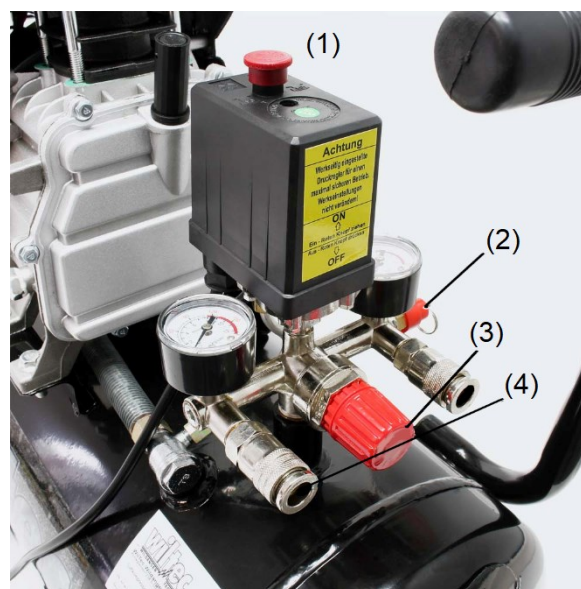

Figure 2
- Open the outlet valve, set the pressure switch knob in the **on** position (**fig. 2**), let the compressor run for 10 min without load to ensure the moving parts to be lubricated before regular operation.
- The compressor is controlled by a pressure switch when working normally. It stops automatically as the pressure increases to the maximum and restarts as the pressure decreases to the minimum. The rated pressure has been adjusted during manufacturing. Do not change the rated pressure carelessly. As soon as the motor is switched off, the compressed air in the discharge pipe should be released through the outlet valve under the switch. This is necessary for restarting the motor, otherwise the motor will be damaged. The rated pressure can be adjusted by turning the adjusting bolt of the switch (**fig. 2**).
- The outlet pressure of the compressed air can be adjusted by the regulating valve (**fig. 2**). Pull the regulator valve knob up and turn it clockwise to increase the pressure.